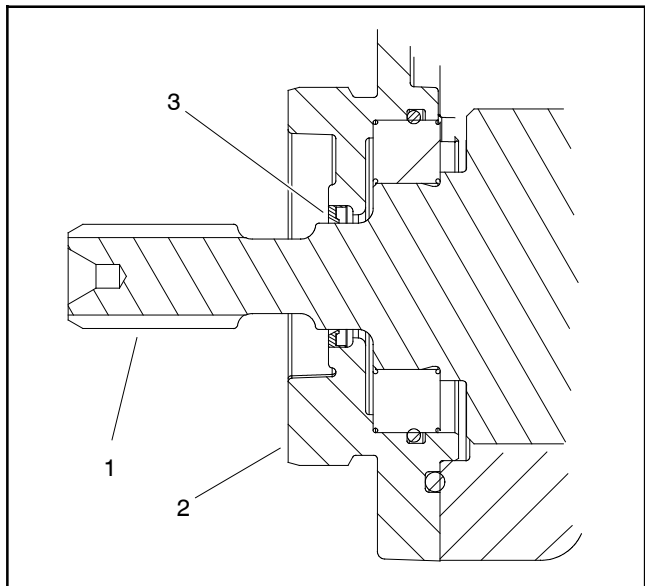

Figure 99
4. Use cutting reel motor rotor tool set (see Special Tools in this chapter) to carefully install rotor assembly (items 5, 6 and 7) into motor housing.
5. Lubricate new O-rings (items 14 and 3) with dielectric lubricant (see Special Tools in this chapter) and install O-rings to grooves in motor cover. Place wave washer (item 4) in cover.
6. Carefully slide motor cover onto rotor until it contacts motor housing. Secure cover with six (6) torx head screws.
8. Place wave washer (item 4) into housing bore for output gear bearing.
10. Slide output gear assembly (items 5, 11 and 7) into front of housing. Make sure that output gear teeth mesh with rotor gear.
11. Install shaft seal (item 13) into gearbox cover. Press shaft seal into front cover until it is flush with the cover surface. Shaft seal should have the seal lip toward the inside of the motor (Fig. 99).
12. Lubricate new O-rings (items 8 and 10) with dielectric lubricant (see Special Tools in this chapter) and install O-rings to grooves in gearbox cover.